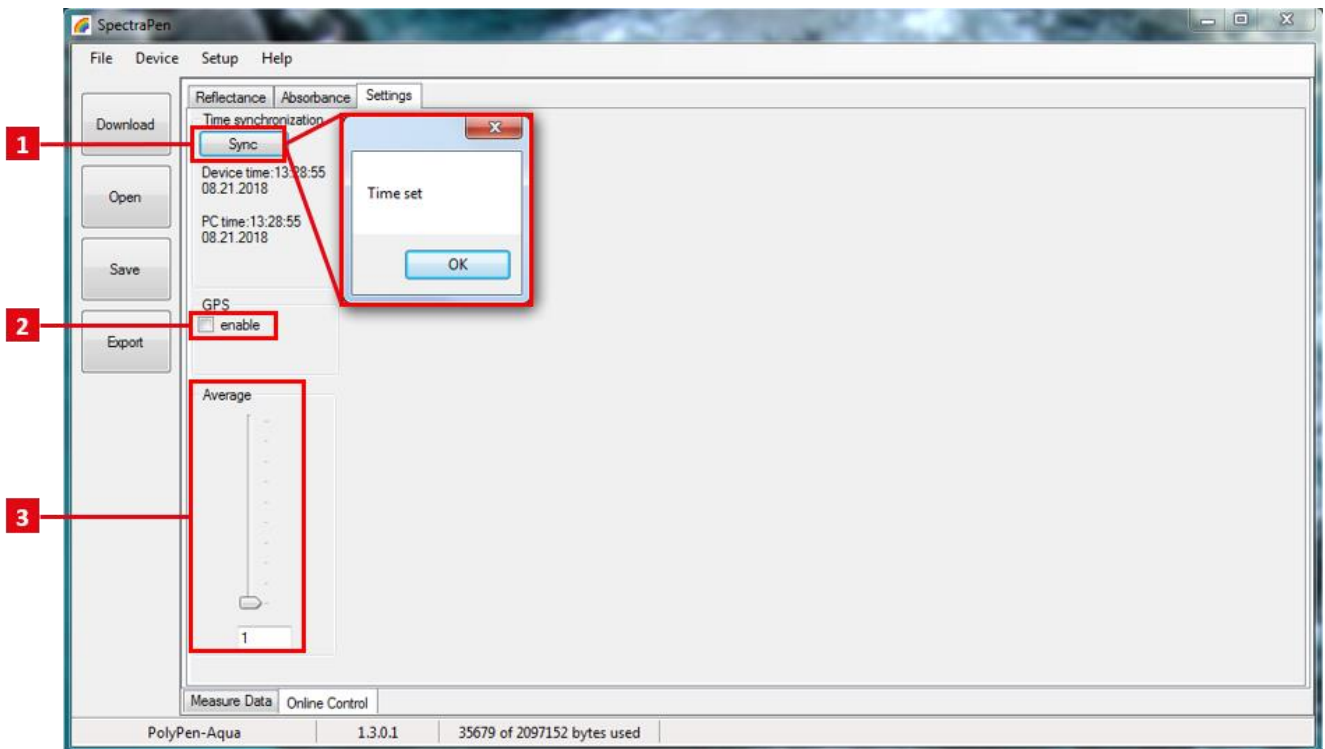

Fig. 37 Settings of online control.
Settings (Fig. 37)
- Time synchronization of the device and PC (Fig. 37 - 1)
- GPS built-in module activation (Fig. 37 - 2; more information about the GPS module in chapter 8)
- Averaging of measurement, set from 1 to 10 measurements (Fig. 37 - 3)